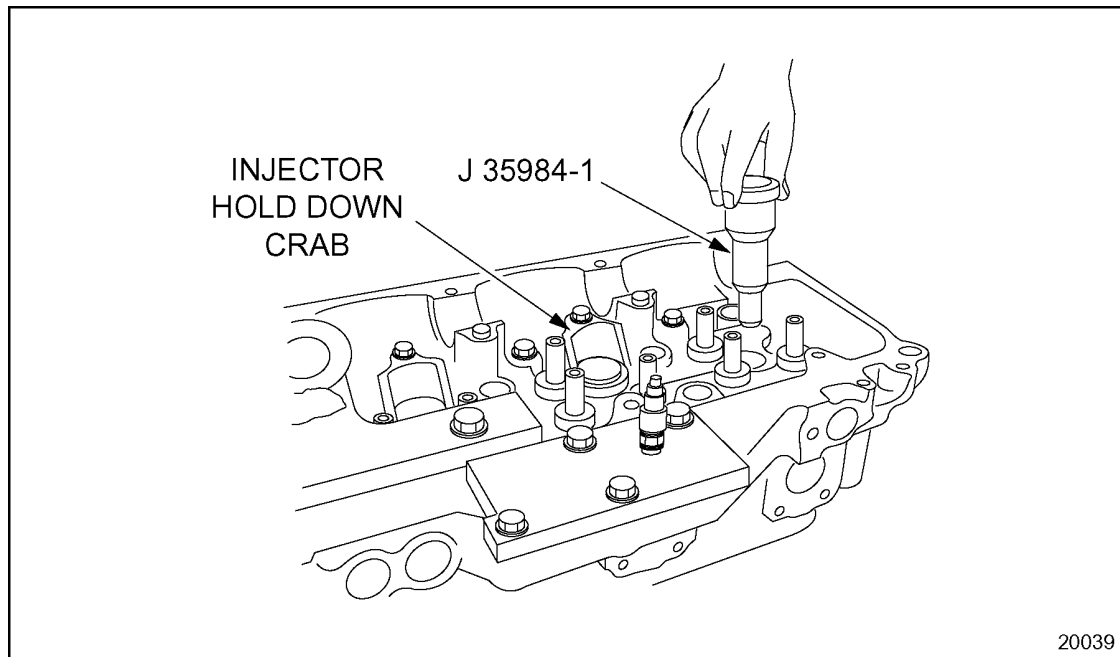

Figure 1-37 Test Injector Installation
4. Install dummy fuel injectors, J 35984-1, to the injector bores to assure proper seating of the fuel injector tubes. See Figure 1-37.